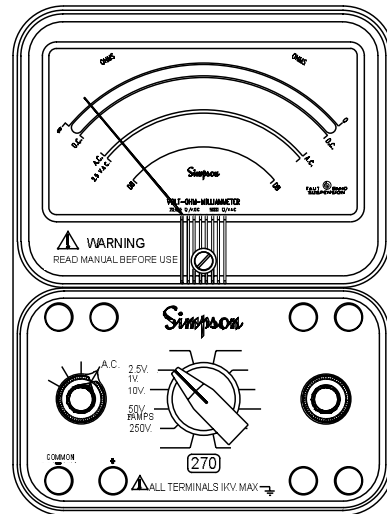

Figure 4-6. Jacks and Switch Positions for Measuring Decibels
- b. Set the functions switch at AC (figure 4-6).